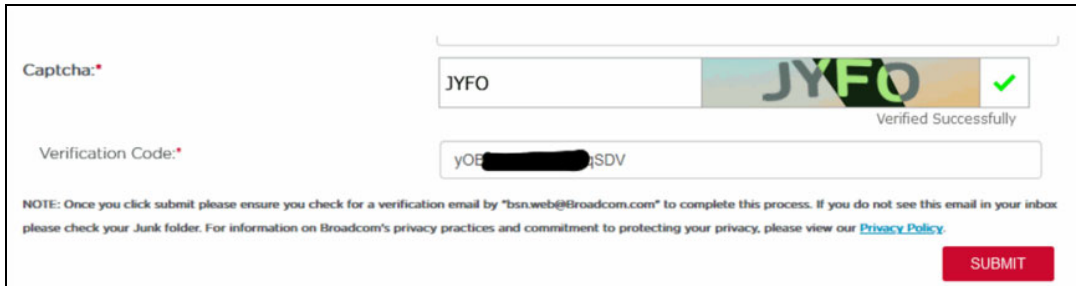

Figure 9-9 Entering the Broadcom verification code and captcha
12. Enter the verification code and the captcha on the Broadcom Assist Portal (Figure 9-9).